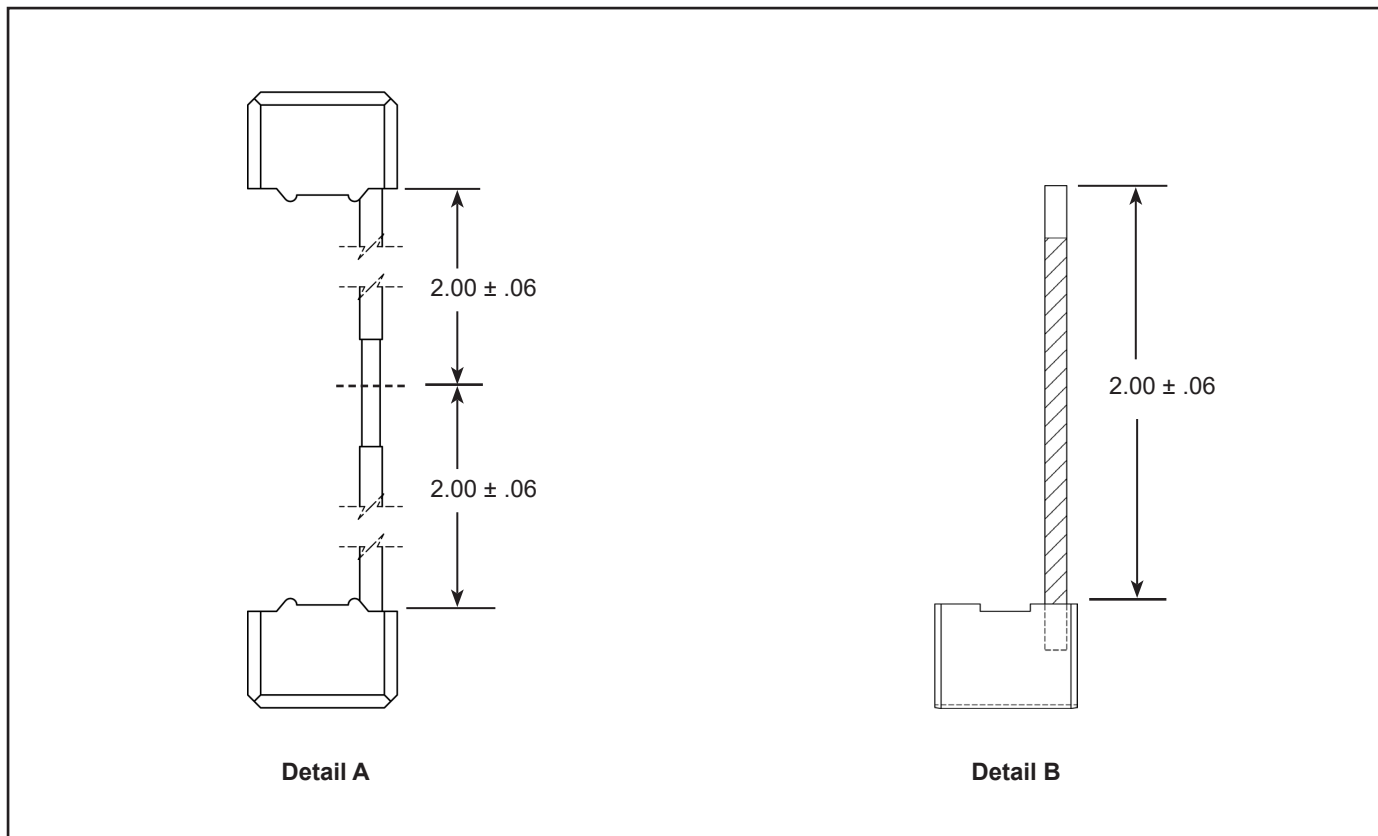

Figure 6-5 - Brushes
- (1) Cut new brushes (6) to length as shown in Fig. 6-5.
NOTE: 12V brushes (6) are shipped as a single component, shown in Fig. 6-5, Detail A. 24V brushes are shipped as a pair, one of two shown in Detail B.